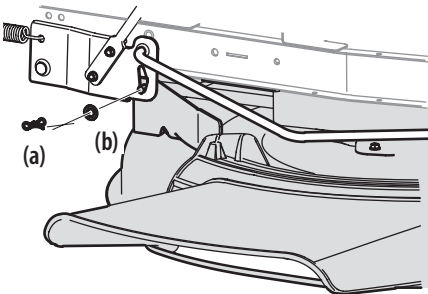

Figure 30
3. Remove the bow-tie cotter pin (a) and flat washer (b) from the deck lift assembly and retain for reinstallation later. See Figure 30.